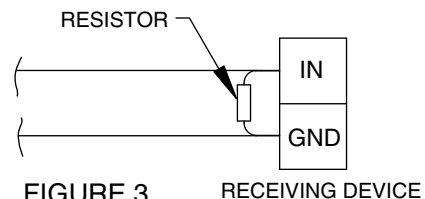

FIGURE 3
**VOLTAGE OUTPUT MODE:** Current loop outputs can easily be converted to voltage outputs with the addition of an external resistor. This resistor should be placed at the receiving end, across the signal input and ground terminals. See figure 3 below.